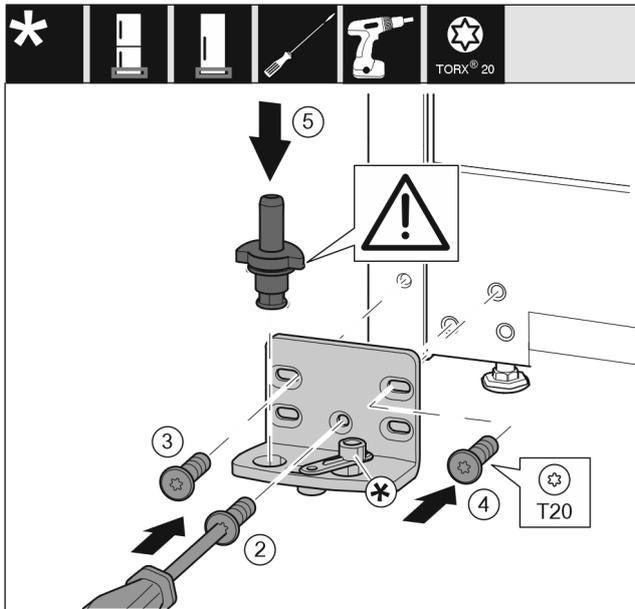

Fig. 17
- ▶ Place the bearing bracket on the other side and screw it on with a T20 screwdriver. Start with screw 2 at the bottom in the middle. Fig. 17 (2)
- ▶ Screw in screws 3 and 4 tightly. Fig. 17 (3,4)
- ▶ Insert the bearing pin completely. Make sure that the latching lug is pointing to the rear. Fig. 17 (5)